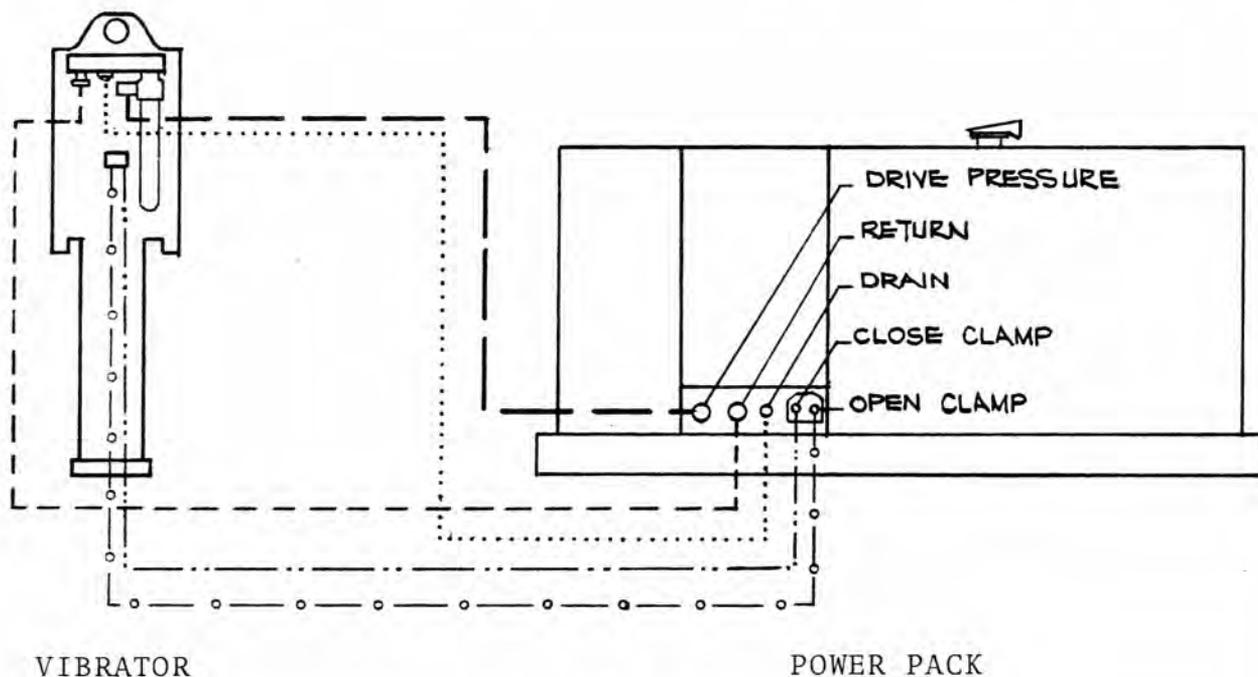

Fig. 1
- a. The vibrator and hydraulic clamps are connected to the power pack by five hydraulic hose lines (Fig. 1).
- a. The vibrator is usually shipped with the hoses attached to the vibrator. If the hoses have been shipped separately, they must be connected in the field. Fig. 1 on page II-3 shows the correct arrangement of the five hose lines connecting the power pack to the vibrator.
- b. For the clamp hose connections, refer to Fig. 2, this sheet, as well as Fig. 1 on page II-3 for the correct arrangement. The caisson clamps, which are most commonly used with the 1412, should be connected using these illustrations as a guide. Hose blocks are normally stamped "O" for open and "C" for close so that lines may be routed to the proper terminals.